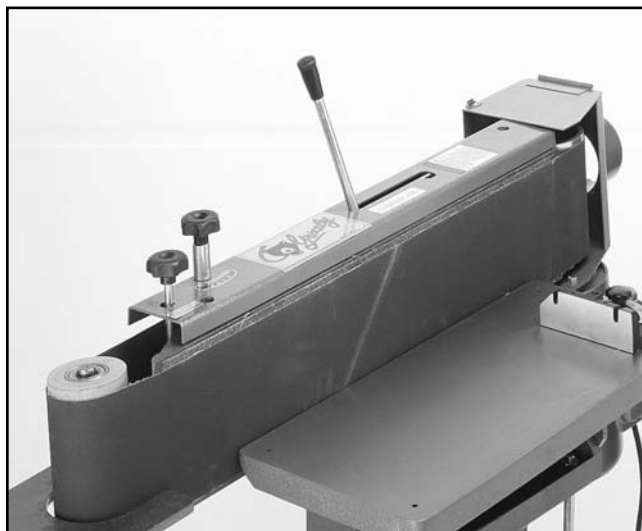

Figure 17. Belt installed.
3. Slide the belt over the rollers. Move the quick release lever back to its tensioned position. **Figure 17.** Belt tracking is covered in the next section.